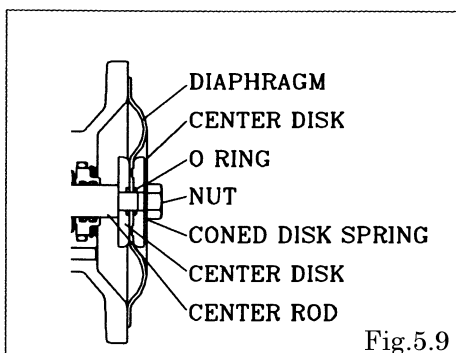

Fig.5.9
- Install the O ring (cf. Fig. 5.9).